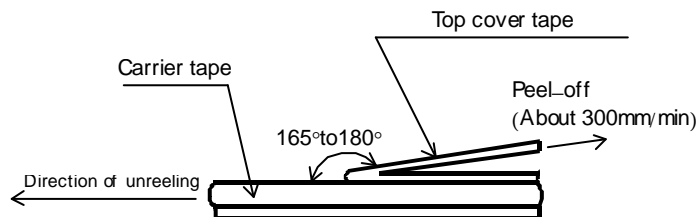
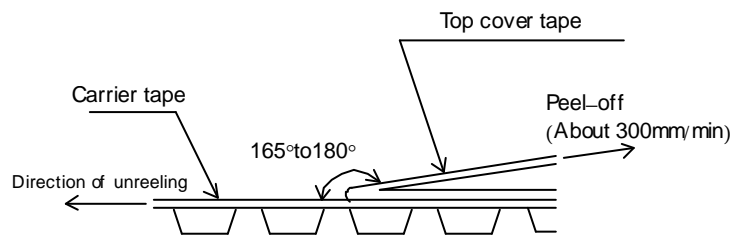

Figure-8
Figure-9
- 5). The peel strength of the top cover tape shall be with in 0.1N to 0.5N on the test method as shown in the following RVC16,20,32: Figure-8, RVC50,63: Figure-9.